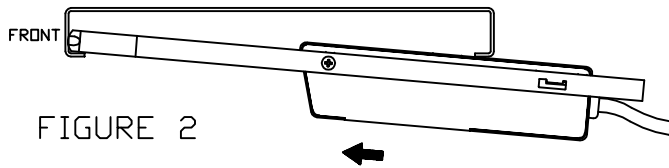

FIGURE 2
- REST FRONT OF SPRING BRACKETS ON INSIDE OF FRONT LEDGE OF SHELF. (SEE FIGURE 2)